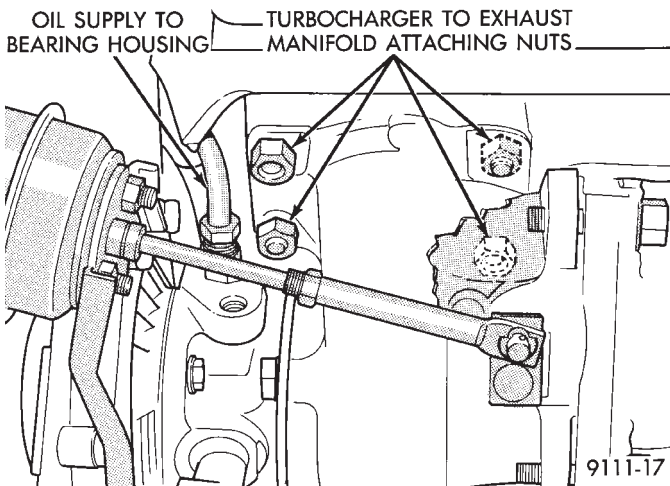
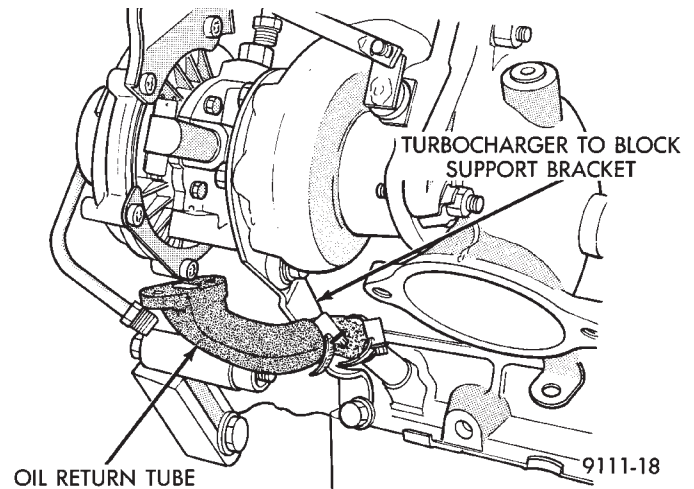

Fig. 12 Turbocharger Attaching Nuts
Fig. 13 Oil Return Tube and Support Bracket
(6) Separate oil feed line from turbocharger housing (Fig. 12).
(7) Remove three (two upper and one lower driver's side) nuts retaining turbocharger to manifold (Fig. 12).
(9) See Suspension, Group 2, and remove right driveshaft assembly. Air deflector may need to be removed from crossmember.
(10) Separate oil drain back tube fitting from turbocharger housing and remove fitting and hose (Fig. 13).
(11) Remove turbocharger to block support bracket (Fig. 13).
(12) Remove one remaining turbocharger to manifold retaining nut (Fig. 12).
(1) Position turbocharger on exhaust manifold. Apply antiseize compound to threads and install the lower (passenger side) retaining nut (Fig. 12). Tighten nut to 54 N•m (40 ft. lbs.) torque.
(4) Install oil drain back tube and fitting (with new gasket) to turbocharger housing (Fig. 13).
(5) Install turbocharger to block support bracket and install screws finger tight (Fig. 13). Tighten block screw FIRST to 54 N•m (40 ft. lbs.) torque, then tighten screw to turbocharger housing to 27 N•m (20 ft. lbs.) torque.
(6) Reposition exhaust pipe. Tighten articulated joint shoulder bolts to 28 N•m (250 in. lbs.) torque.
(7) See Suspension, Group 2, and install right driveshaft and wheel and tire assembly. Install air deflector on crossmember.